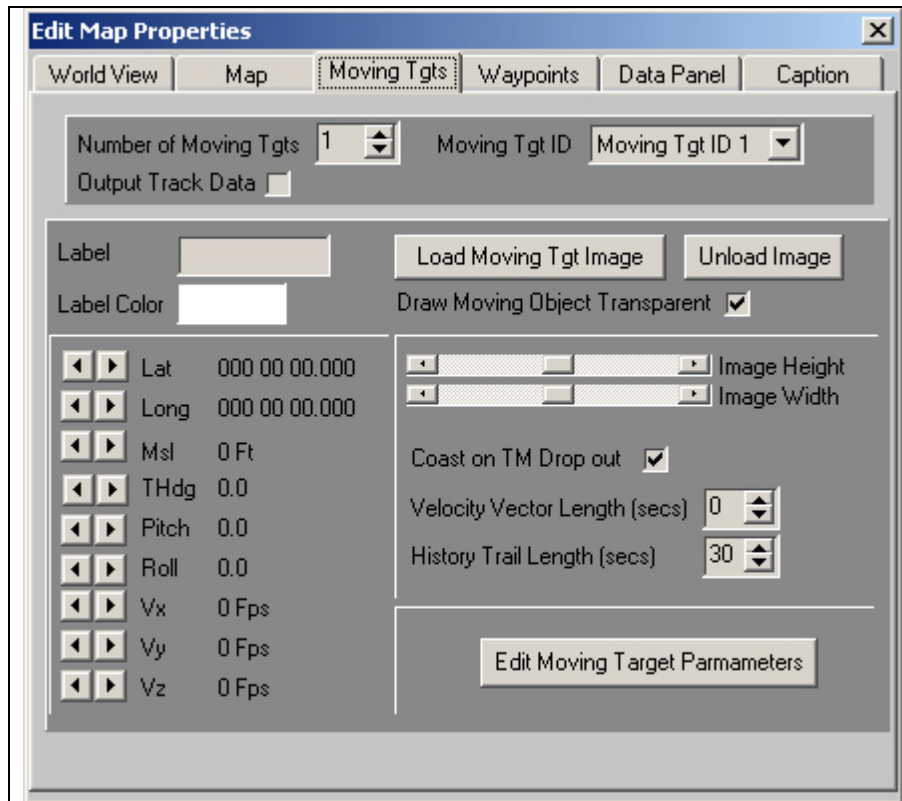

Figure 6-19 Map Widget Properties - Moving Targets Tab
Moving targets are what the map widget is all about. Using the moving targets tab, shown in Figure 6-19 below, enables the map to have up to twelve (12) moving targets.